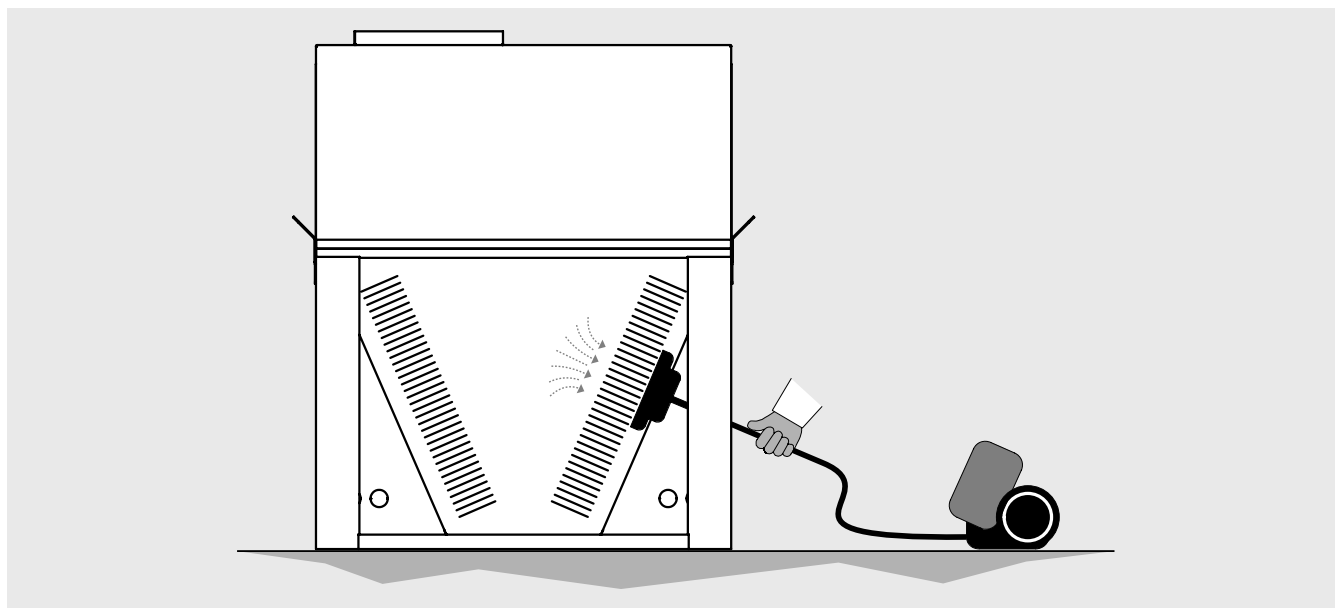

Figure 8
- 11.10 Clean the surfaces of the finned pack and of the fans at least once every six months. Aspirate from the air inlet side (see "Figure 8").